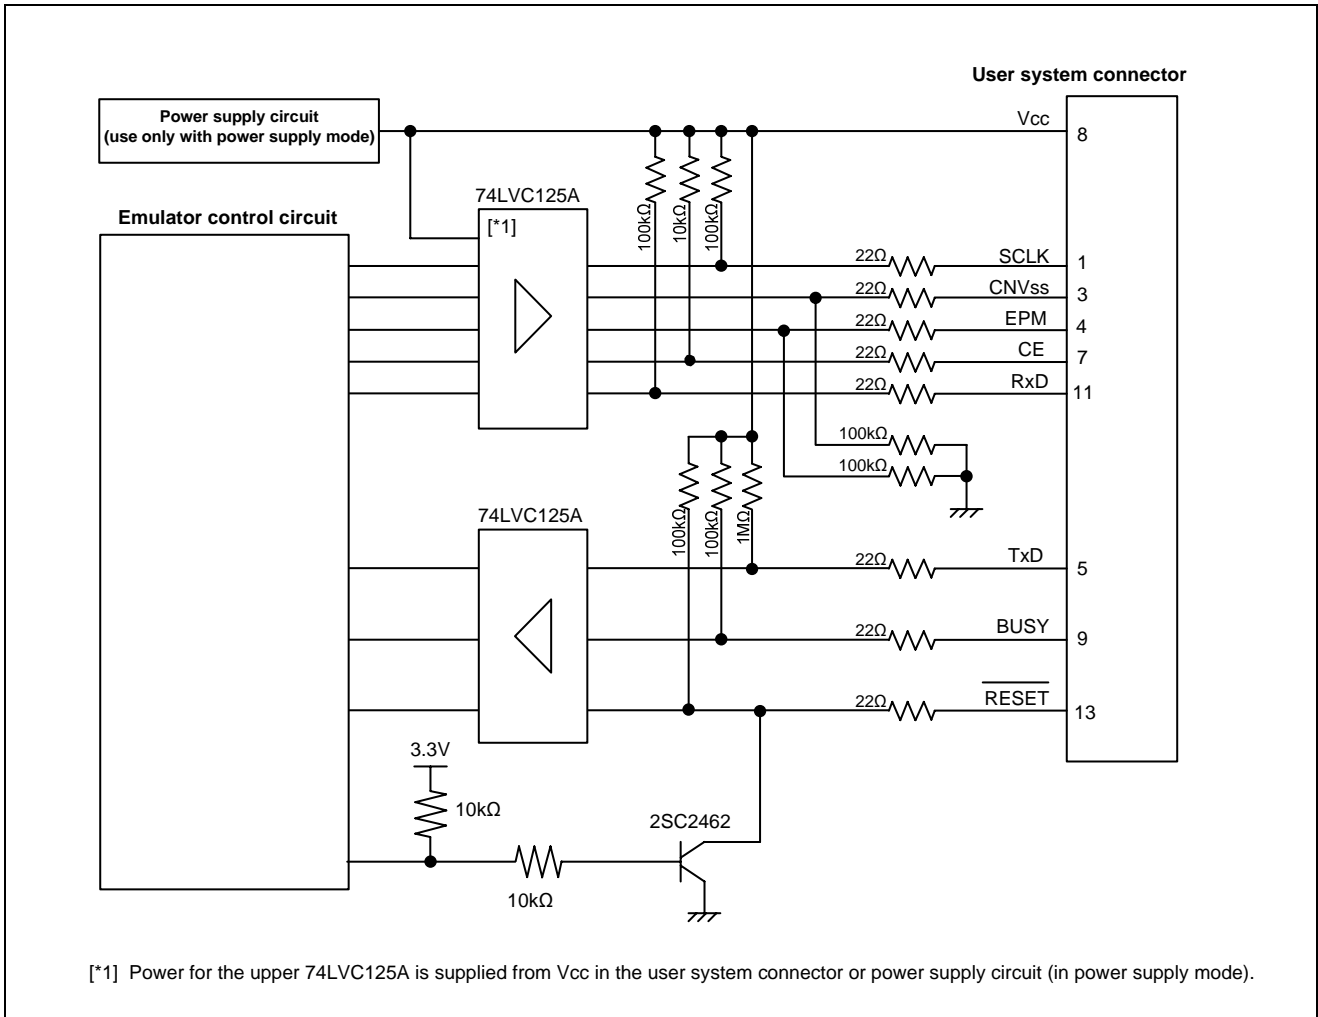

Figure 5.12 Interface Circuit Inside the E8 Emulator (For Reference)
1. Pins P64, P65, P66 and P67 are used exclusively by the E8 emulator. Connect the E8 emulator to the MCU pins. Connect pins P66 and P67 to the E8a emulator after pulling up the MCU pins at the Vcc (Vcc1) level. For P64 and P65, pull up the pins at the Vcc (Vcc1) level or pull down them according to the MCU pin state after disconnecting the E8 emulator. P64 may be in a Hiz state while the E8 emulator is active. Therefore, set the pin resistance value so the voltage cannot be at the midpoint potential, depending on the voltage dividing of the resistance inside the E8 emulator (Figure 5.12).
For P50 and P55, pull up the pins at the Vcc level or pull down them according to the MCU pin state after disconnecting the E8 emulator. P50 and P55 may be in a Hiz state while the E8 emulator is active. Therefore, set the pin resistance value so the voltage cannot be at the midpoint potential, depending on the voltage dividing of the resistance inside the E8 emulator (Figure 5.12).
Pull up P55 at the Vcc2 level or pull down it according to the MCU pin state after disconnecting the E8 emulator. P55 may be in a Hiz state while the E8 emulator is active. Therefore, set the pin resistance value so the voltage cannot be at the midpoint potential, depending on the voltage dividing of the resistance inside the E8 emulator (Figure 5.12).
9. Figure 5.12 shows the interface circuit in the E8 emulator. Use this figure as a reference when determining the pull-up resistance value.